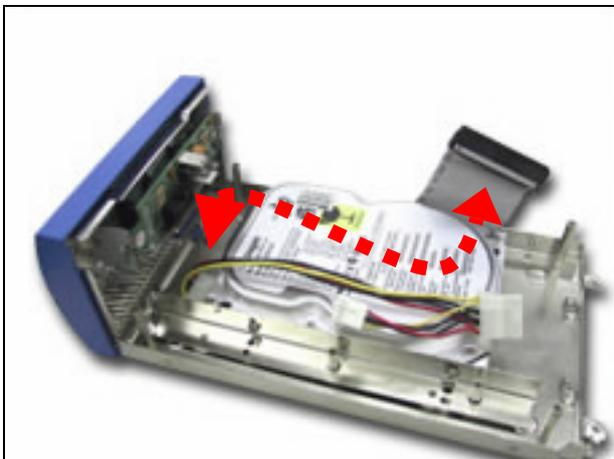

*Fig. 2-27* Connect power and IDE cable to HDD
5. Connect the IDE cable and power connector to HDD (*Fig. 2-27*).